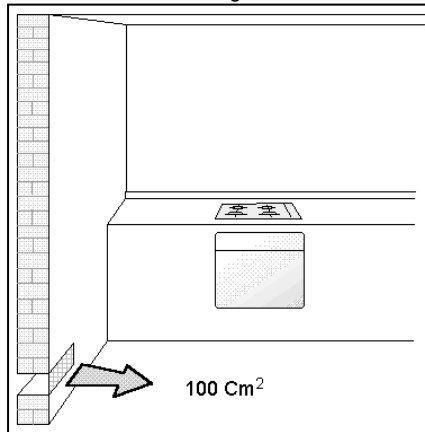
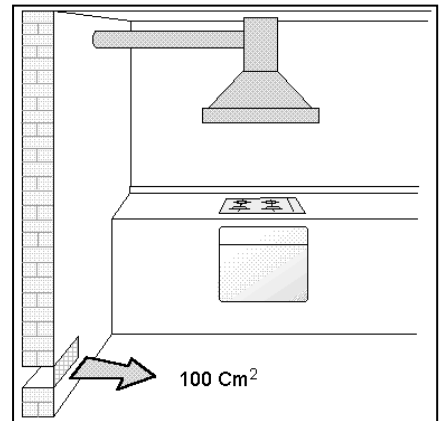

Fig.4
Fig.5A
**NOTE: The use of a gas cooking appliance produces heat and humidity in the place where it is installed. Therefore you need to ensure that the place is well ventilated, keeping clear the natural ventilation openings (Fig. 4 ) and using the mechanical ventilation device/ flue or electric fan ( Fig. 5A and 5B ). Intensive or prolonged use of the appliance may require additional entilation such as by opening a window or an increased ventilation efficiency obtained by increasing the power of the echanical ventilators if it is present.**